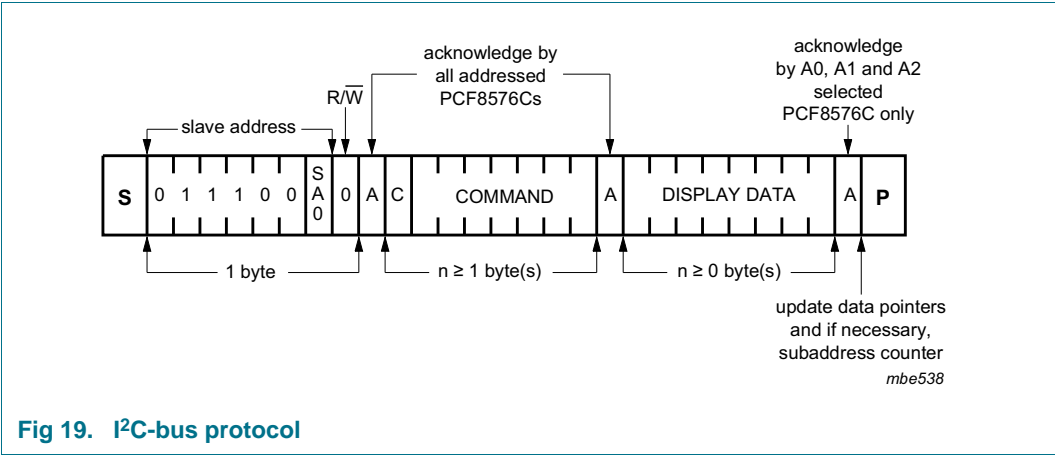

Fig 19. I²C-bus protocol
The I²C-bus protocol is shown in Figure 19. The sequence is initiated with a START condition (S) from the I²C-bus master which is followed by one of the two PCF8576C slave addresses available. All PCF8576Cs with the corresponding SA0 level acknowledge in parallel with the slave address but all PCF8576Cs with the alternative SA0 level ignore the whole I²C-bus transfer.